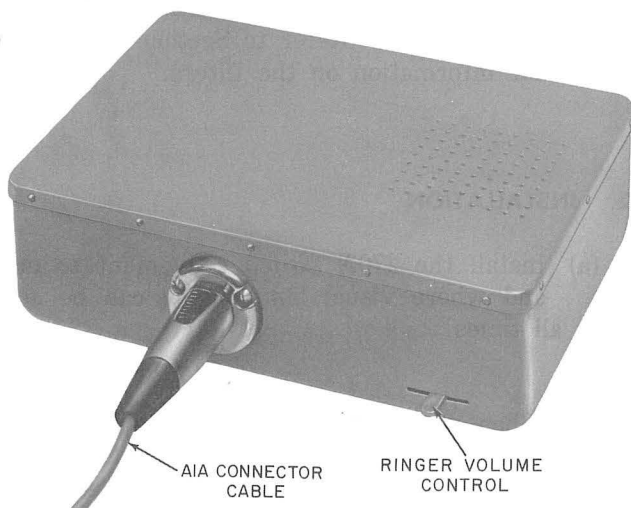

Fig. 2—R1A Ringer
- (f) The telephone set ringer is not used with the 270A switch. All set ringer leads should be disconnected, insulated, and stored. An R1A ringer (Fig. 2) must be installed external to the telephone set for each line where an incoming signal is required. When a 44A connecting block or equivalent is installed near the set; the R1A ringer can be connected to the line at the block using the A1A connector cable. Otherwise the cable must be run to the distribution point or filter container.